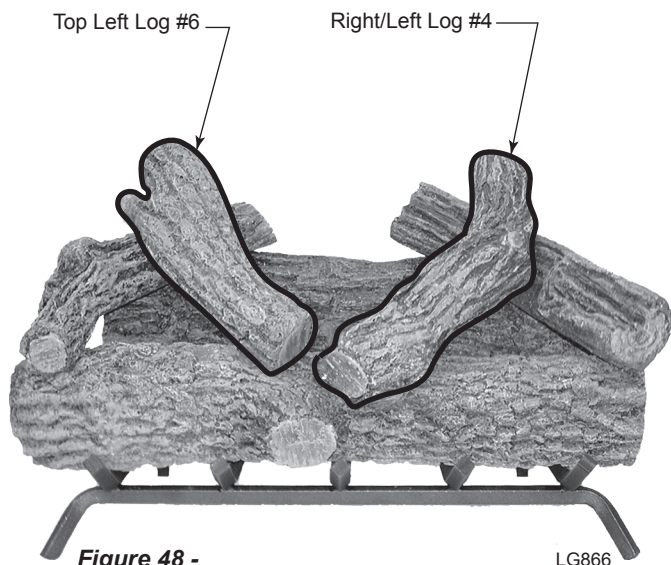

Figure 48 - Place Right/Left and Top Left Log
5. Rest Right/Left Log #4 on Log # 3 and Log #1. *Figure 48*
6. Rest Top Left Log #6 on Log #4 and Log #1. *Figure 48*